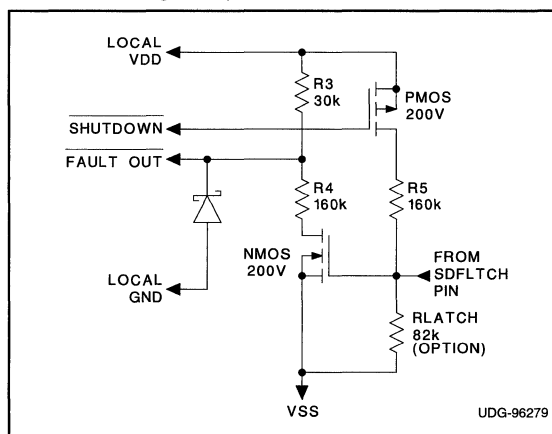

Figure 6. Possible Level Shift Circuitry to Interface to the UCC3921, showing component values selected for a typical telecom application.
Some type of circuit is needed to interface with the UCC3921 via SDFLTCH, such as opto-couplers or level shift circuitry. Figure 6 depicts one implementation of level shift circuitry that could be used, showing component values selected for a typical  $-48V$  telecommunication application. There are three communication conditions which could occur; two of which are Hot Swap Power Manager (HSPM) state output indications, and the third being an External Shutdown.
- 1) When open, and under a non-fault condition, SDFLTCH is pulled to a low state. In Figure 6, the N-channel level shift transistor is off, and the FAULT OUT signal is pulled to LOCAL VDD through R3. This indicates that the HSPM is not faulted.
- 2) When a fault is detected by the fault timer or under-voltage lockout, this pin will drive to a high state, indicating that the external power FET is off. In Figure 6, the N-channel level shift transistor will conduct, and the FAULT OUT signal will be pulled to a Schottky Diode voltage drop below LOCAL GND. This indi-
If a  $5k < R_{LATCH} < 250k\Omega$  resistor is tied between SDFLTCH & VSS, as optionally shown in Figure 6, then the latched operating mode (described earlier) will be invoked upon the occurrence of a fault.